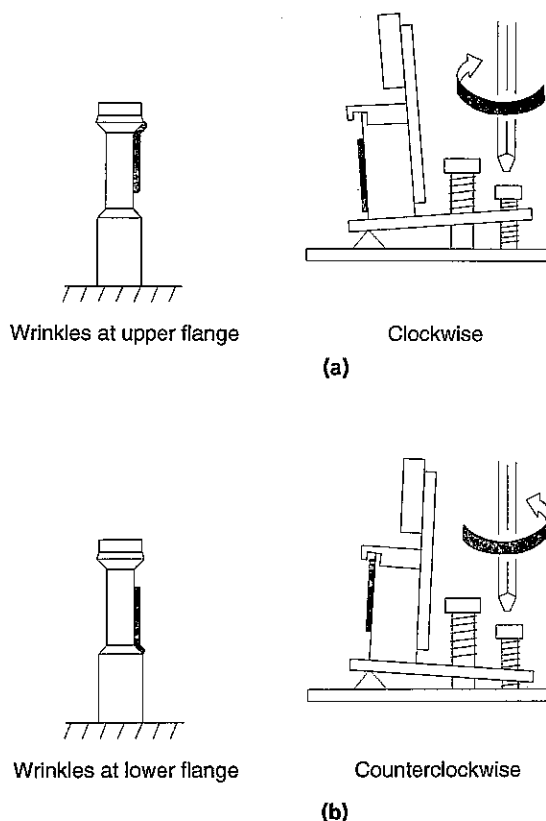

Figure 1-37.
- 1) Wrinkles at the upper flange : Turn the above adjusting screw clockwise, as shown in Figure 1-37 (a).
- 2) Wrinkles at the lower flange : Turn the above adjusting screw counterclockwise, as shown in Figure 1-37 (b).